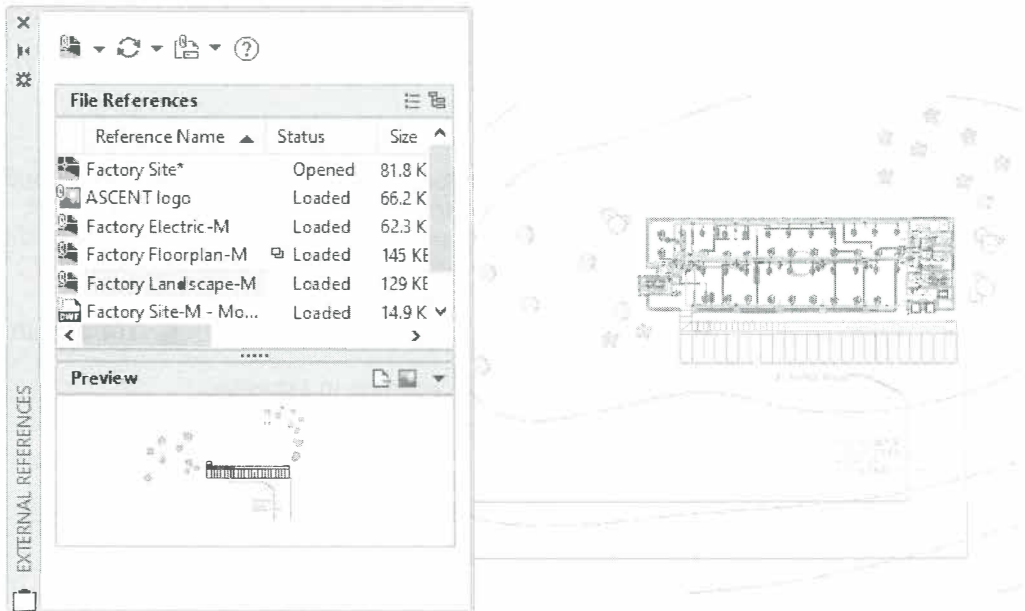

Figure 11–1
When you insert one drawing into another as a block, the graphics are merged and no link remains between the two files. External References enable you to combine files and retain the link, as shown in Figure 11–1. This serves two main purposes: it controls the file size because objects in the referenced drawing do not become part of the host drawing, and objects modified in the reference file are automatically updated in the host drawing because the files are linked.
- When you open a drawing that contains an external reference file that cannot be found, a References - Not Found Files warning box opens, as shown in Figure 11–2. Here you can directly open the External References palette, which enables you to check for the missing file and resolve the issue, or ignore the unresolved reference file.